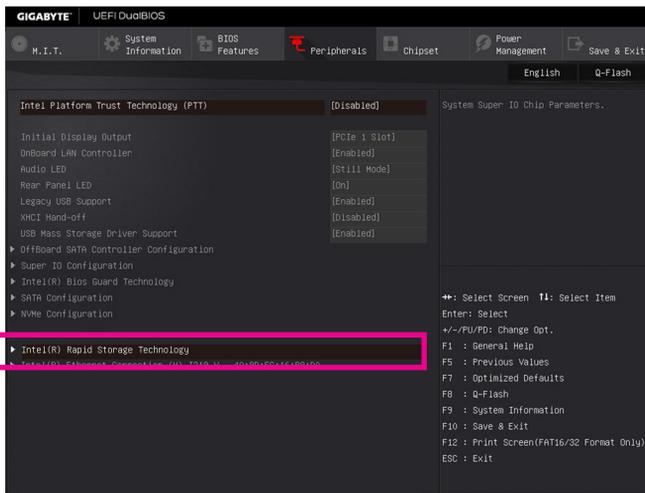

Figure 3
After the system reboot, enter BIOS Setup again. Then enter the **Peripherals** \ **Intel(R) Rapid Storage Technology** sub-menu (Figure 3).